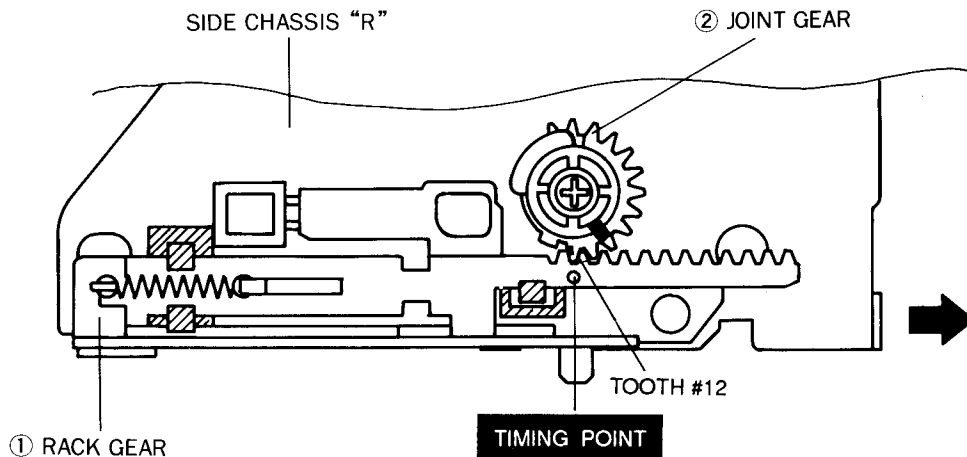

Fig. 8 Timing Confirmation of Rack Gear and Joint Gear
1. Push the rack gear ① in the direction of arrow to the end.
2. Make sure that the tooth #12 of joint gear ② and the Timing Point of rack gear ① are aligned correctly as shown in Fig. 8.